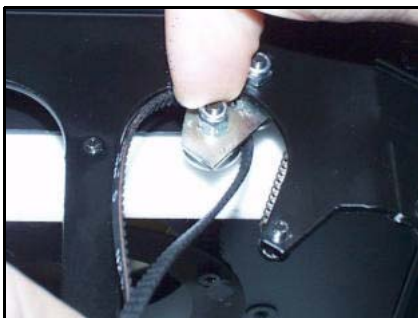

Fig. 12. Loop belt over tensioner
- 5 Pull the belt tension pulley forward and loop the new belt over it as shown in Fig. 12.